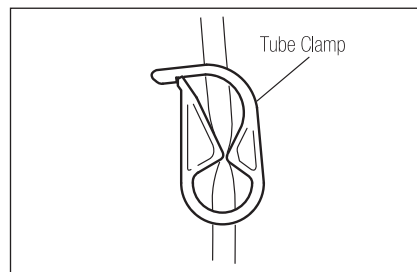

Fig. 12
1) Close the Tube Clamp, between the Irrigation Tube Needle and the Irrigation Pump, as shown in Fig.12.